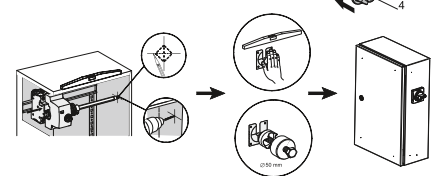

Рисунок 10 – Функция UNLOCK / Figure 10 – UNLOCK function
- UNLOCK. The UNLOCK function allows for an emergency release of the rotary handle from the metal rod. This function is used in case of emergency when the rotary handle of the modular device is locked (when the contact group of the modular device is blocked). The emergency release function is performed by means of the UNLOCK button located on the side of the rotary handle, as shown in figure 10. The UNLOCK function operates as follows: when the UNLOCK button is pressed with a thin elongated object (e.g. a paper clip), as shown in figure 10, the rotary handle must be released from the metal rod, thus allowing the distribution cabinet door to be opened;